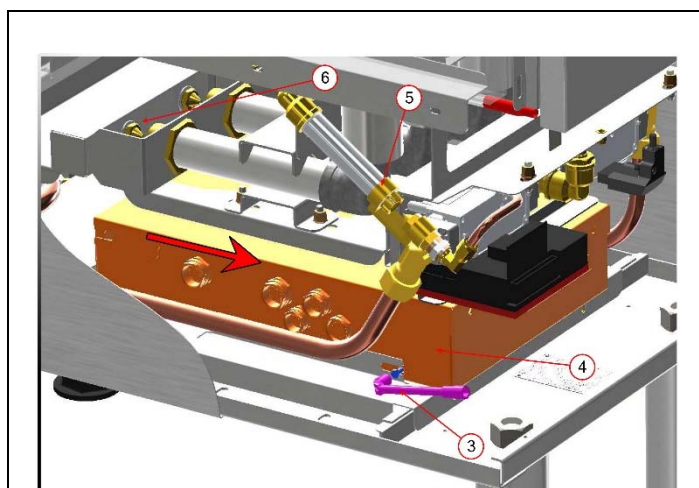

Fig. 8.
3. Loosen the fixing screw of the electrical box (Fig. 8. – Mark 3).
4. Pull out the electrical box (Fig. 8. – Mark 4).
5. Replace the cross-lighting burner injector (Fig. 8. – Mark 5) according to the data given in the paragraph 3.
6. Replace the main burner injectors (Fig. 8 – Mark 6) according to the data given in the paragraph 3